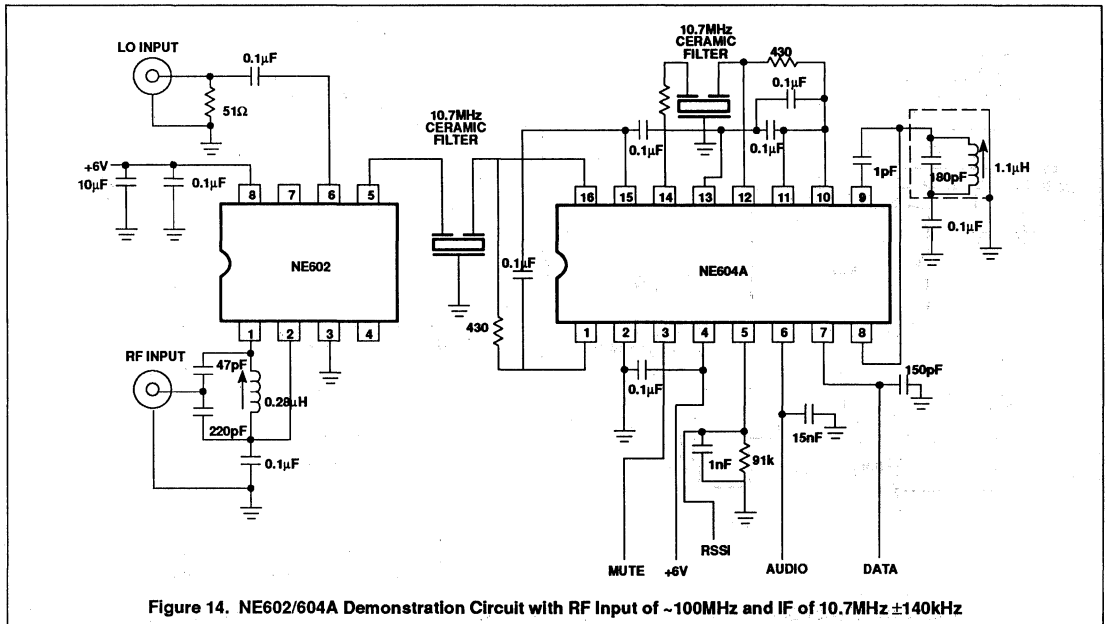
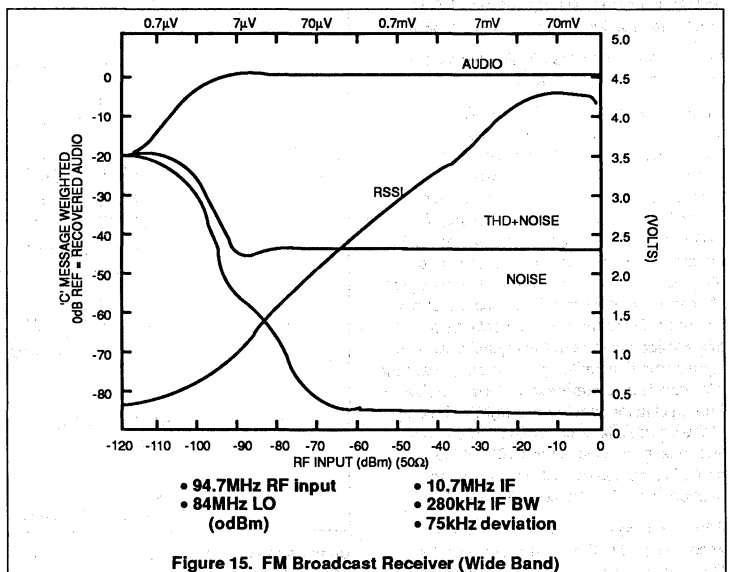

Figure 14. NE602/604A Demonstration Circuit with RF Input of ~100MHz and IF of 10.7MHz ±140kHz
Figure 15. FM Broadcast Receiver (Wide Band)
This example represents three possible applications: (1) low cost, sensitive FM broadcast receivers, (2) SCA (Subsidiary Communications Authorization) receivers and (3) data receivers. The circuit schematic is shown in Figure 14. While this example has the greatest diversity of application, it is also the simplest. Two 10.7MHz ceramic filters were used. The first was directly connected to the output of the NE602. The second was directly connected to the output of the first IF limiter. The secondary sides of both filters were terminated with 330Ω as in the two previous examples. While the filter bandpass skew of this simple single conversion receiver might not be tolerable in some applications, to a first order the results are excellent. (Please note that sensitivity is measured at $+20\text{dB}$ in this wideband example.) Performance is illustrated in Figure 15. $+20\text{dB}$ SINAD was measured with $1.8\mu\text{V}$ input.